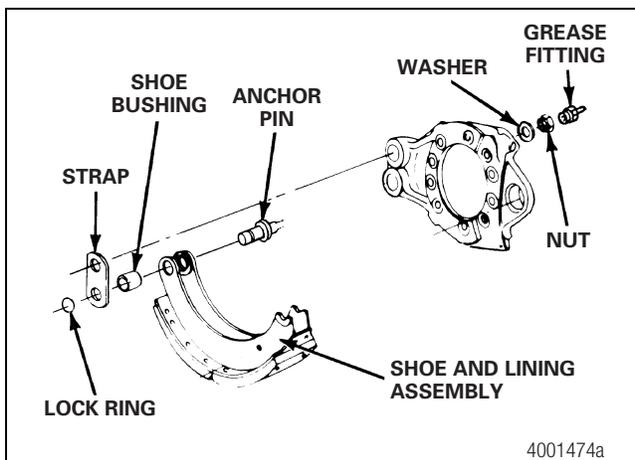

Figure 5.25
- A. For a straight anchor pin with threads, place the anchor pin through the shoes and into the shoe side of the spider. The threads on the pin must be toward the slack adjuster. Figure 5.25.